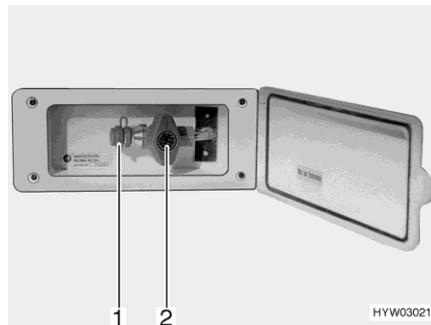

Fig. 193 External gas connection
- Connect the external gas device to the connection point (Fig. 193,1).
- Open the gas isolator tap (Fig. 193,2).